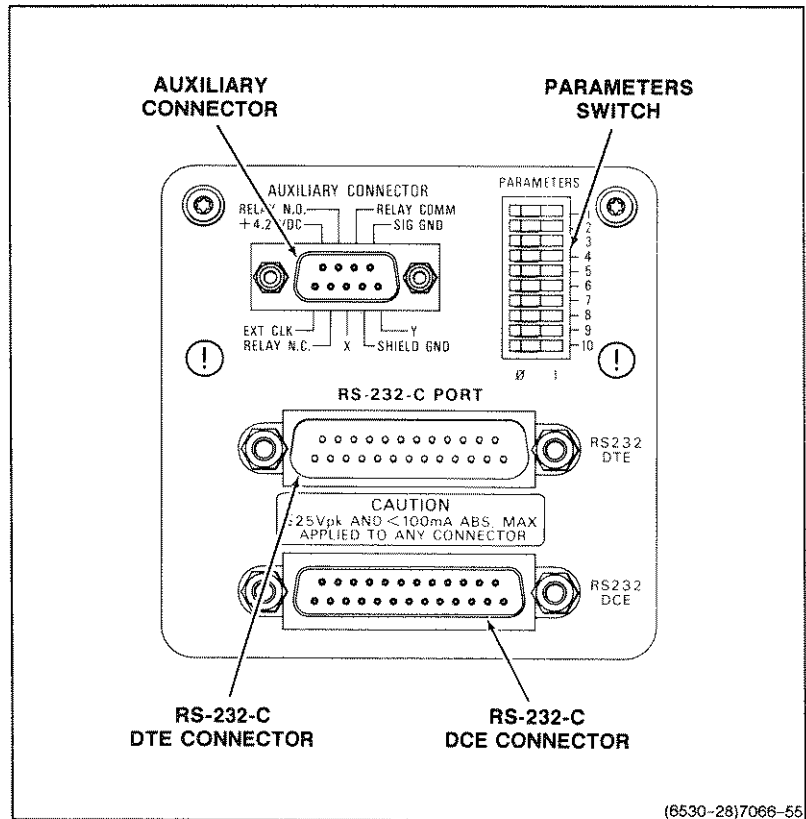

Figure 8-3. Option 12 side panel.
The side panel for Option 12 instruments (Figure 8-3) includes one AUXILIARY connector, one RS-232-C interface port (providing both DTE and DCE capability), and one PARAMETERS switch. The Controls, Connectors, and Indicators part of this manual contains information on the use of the AUXILIARY Connector. Refer to Figure 8-3 for location of the Option 12 side-panel controls and connectors.
**RS-232-C DTE Connector**—Provides connection meeting the EIA RS-232-C standard for data terminal equipment (see Figure 8-3). Table 8-7 lists the function of each pin of the connector. This connector is provided only on Option 12 instruments.
**RS-232-C DCE Connector**—Provides a connector that meets the EIA RS-232-2 standard for data communications equipment (see Figure 8-3). Table 8-8 lists the function of each pin of the connector. The connector is provided only on Option 12 instruments.
The three indicator labels (SRQ, ADDR, and PLOT) above the CRT indicate the status of the Communications interface. Refer to Figure 8-3 (shown previously) for the location of the status indicators. Their operation is as follows: